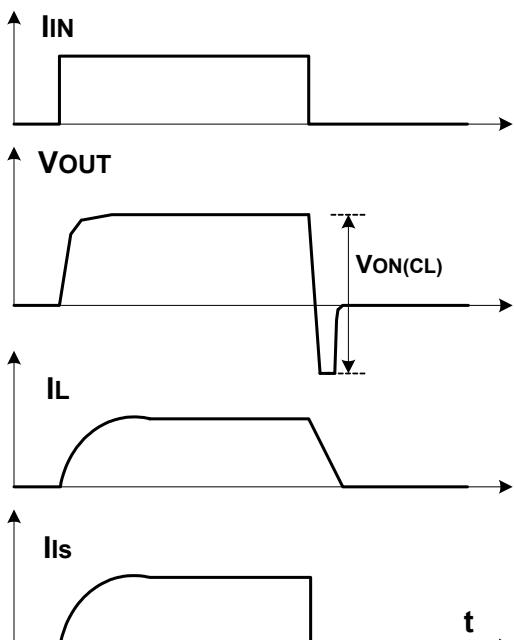

Figure 2b. Switching an inductive load
15) See also figure 2b on page 14.